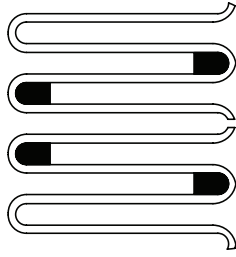

Figure 1 - Coil Spacers for sizes 1030 through 1060T
- A. **Sizes 1030 through 1060T** – Insert 2 coil spacers at each end of the grid, as shown in Figure 1, then insert the other 4 spacers in the same pattern, 180° from the split coil (8 spacers per grid).